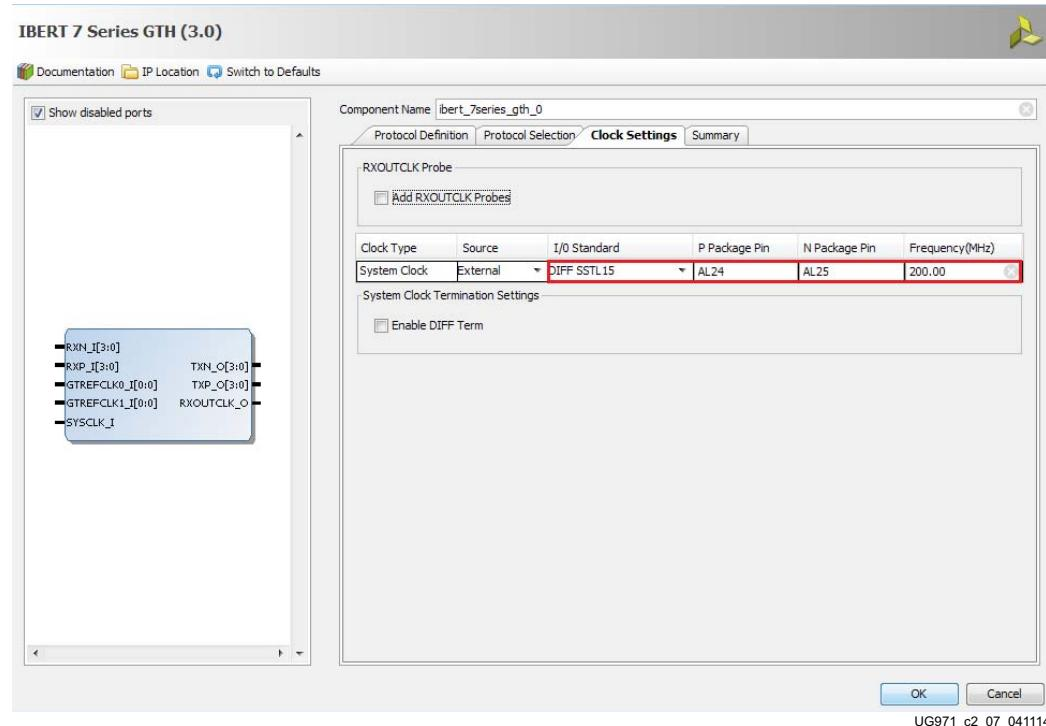

Figure 2-7: Customize IP - Clock Settings
9. In the Clock Settings tab, select **DIFF SSTL15** for the I/O Standard, enter **AL24** for P Package Pin and **AL25** for N Package Pin (the FPGA pins that the system clock connects to), and ensure the Frequency is set to **200.00** (Figure 2-7). Click **OK**. Click **Generate** in the next window to generate the output products.